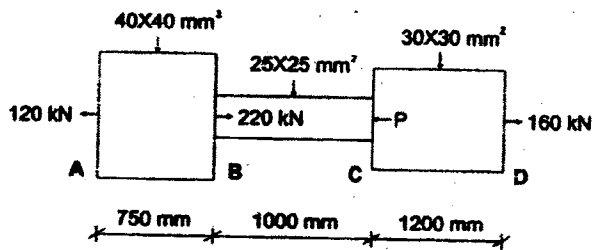

Figure 10
- Q-5** a Define and give example for : (02)
- b Two bars are unstressed and have length 25 cm and 30 cm at 20°C. One bar is of aluminum (06)
- and second bar is of steel as shown in Figure 10. The cross sectional areas of bars are 20 cm² and 10 cm² respectively. Assuming supports are rigid, compute the stress in each member when temperature is 70°C.